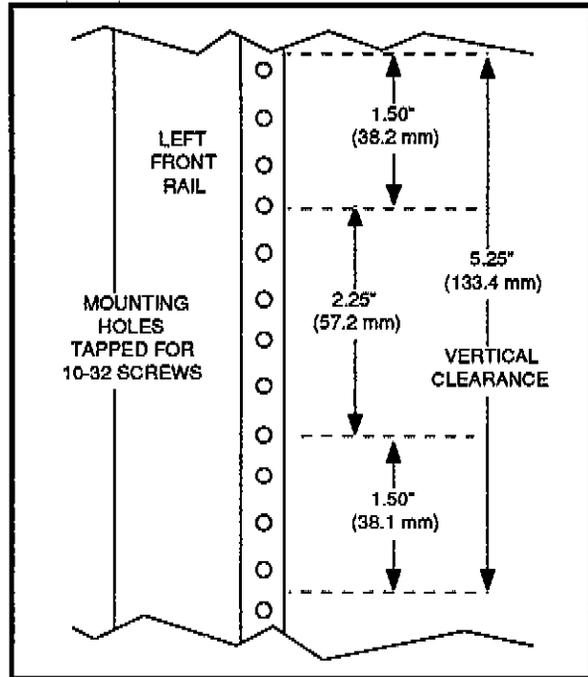

Figure 6-5. Locating mounting holes on front rails of equipment rack.
1. Select appropriate mounting holes in the front rails of the equipment rack, observing the clearance measurements shown in Figure 6-5.